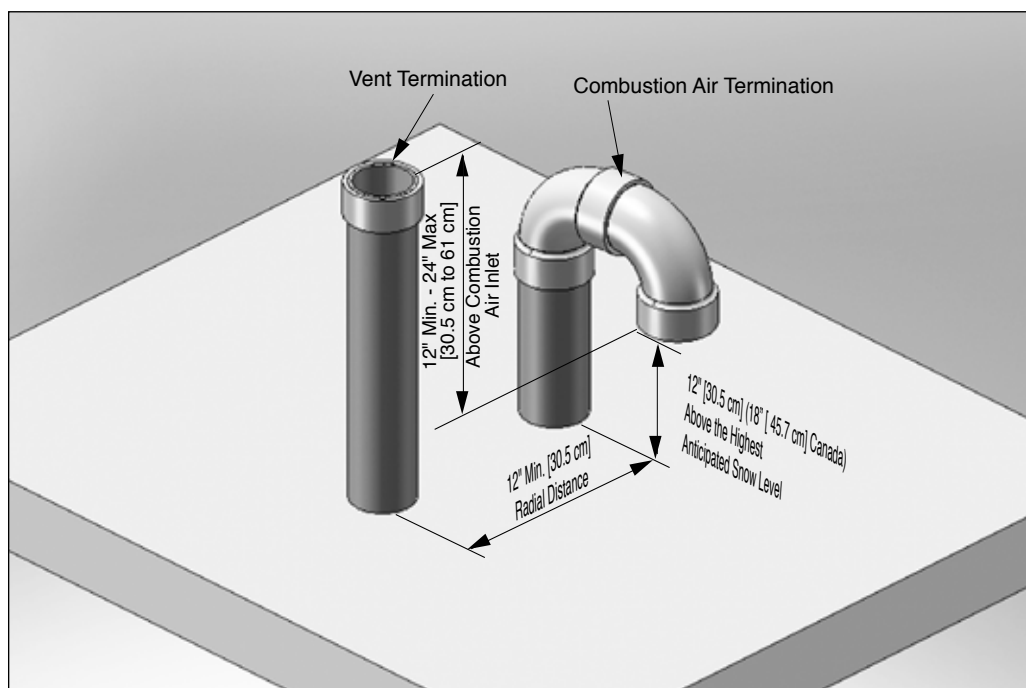

Fig. 1 - Direct Vent - Vertical Termination of Vent and Combustion Air Piping.
2. The combustion air piping must terminate in an upside down "U" shape fashion using two 90° elbows, as shown in **Fig. 1 on page 12.** The termination must be located 12" [30.5 cm] (18" [45.7 cm] in Canada) above the highest anticipated snow level.
3. The vent piping must terminate vertically with a coupling to accept the bird screen and must be located 12" to 24" [30.5 cm to 61 cm] above the combustion air inlet as shown in **Fig. 1 on page 12.**
4. The vent and combustion air terminations must be located at a radial distance of 12" to 24" [30.5 cm to 61 cm] from centerline of vent termination to centerline of air termination as shown in **Fig. 1 on page 12.**
3. Locate the vent and combustion air pipe penetrations to provide clearances as described in *Fig. 1 on page 12*.
2. The combustion air piping must terminate in an upside down "U" shape fashion using two 90° elbows as shown in *Fig. 1 on page 12*.
3. The vent piping must terminate vertically with a coupling as shown in *Fig. 1 on page 12*.
Do not extend the vent pipe above the roof beyond the dimensions shown in *Fig. 1 on page 12*. Extended exposure of the vent pipe could cause condensate to freeze and block the vent pipe, resulting in substantial property damage, serious injury, or death.